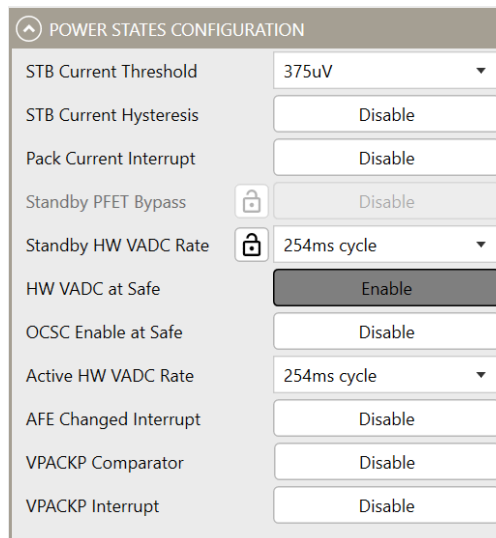

Figure 12: HW VADC at Safe Is Enabled
- During configuration, the IC must be in safe mode, with all the MOSFETs turned off. All the voltage monitoring protections are disabled in safe mode by default. If a protection is required in safe mode, enable the “HW VADC at Safe” setting (see Figure 12).